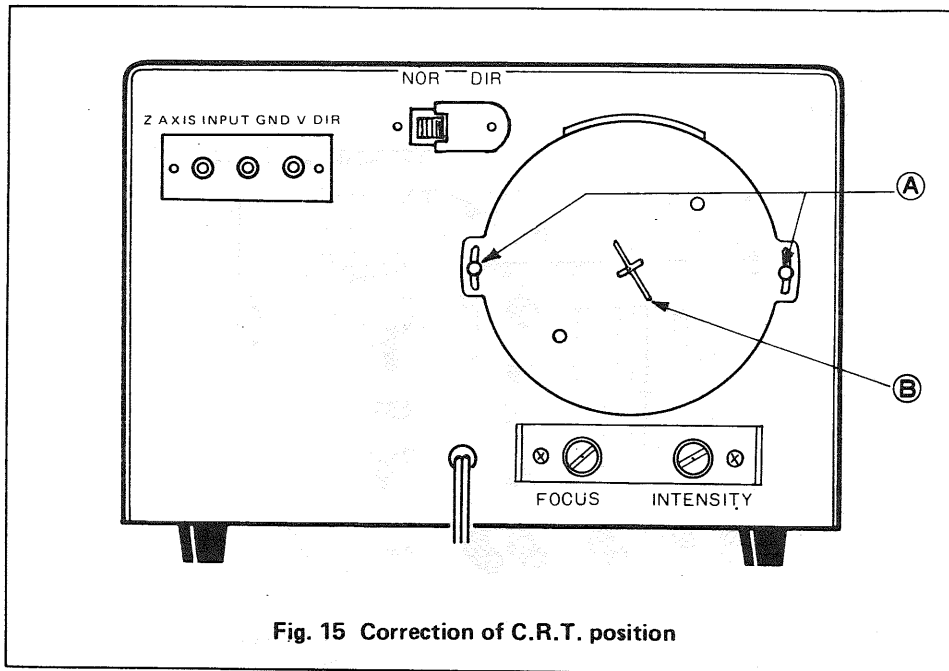

Fig. 15 Correction of C.R.T. position
(e) Correction of Cathode Ray Tube Position for Tilt (see Fig. 15)
- 3) Remove two screws (A) holding the CRT mounting plate (see Fig. 15).